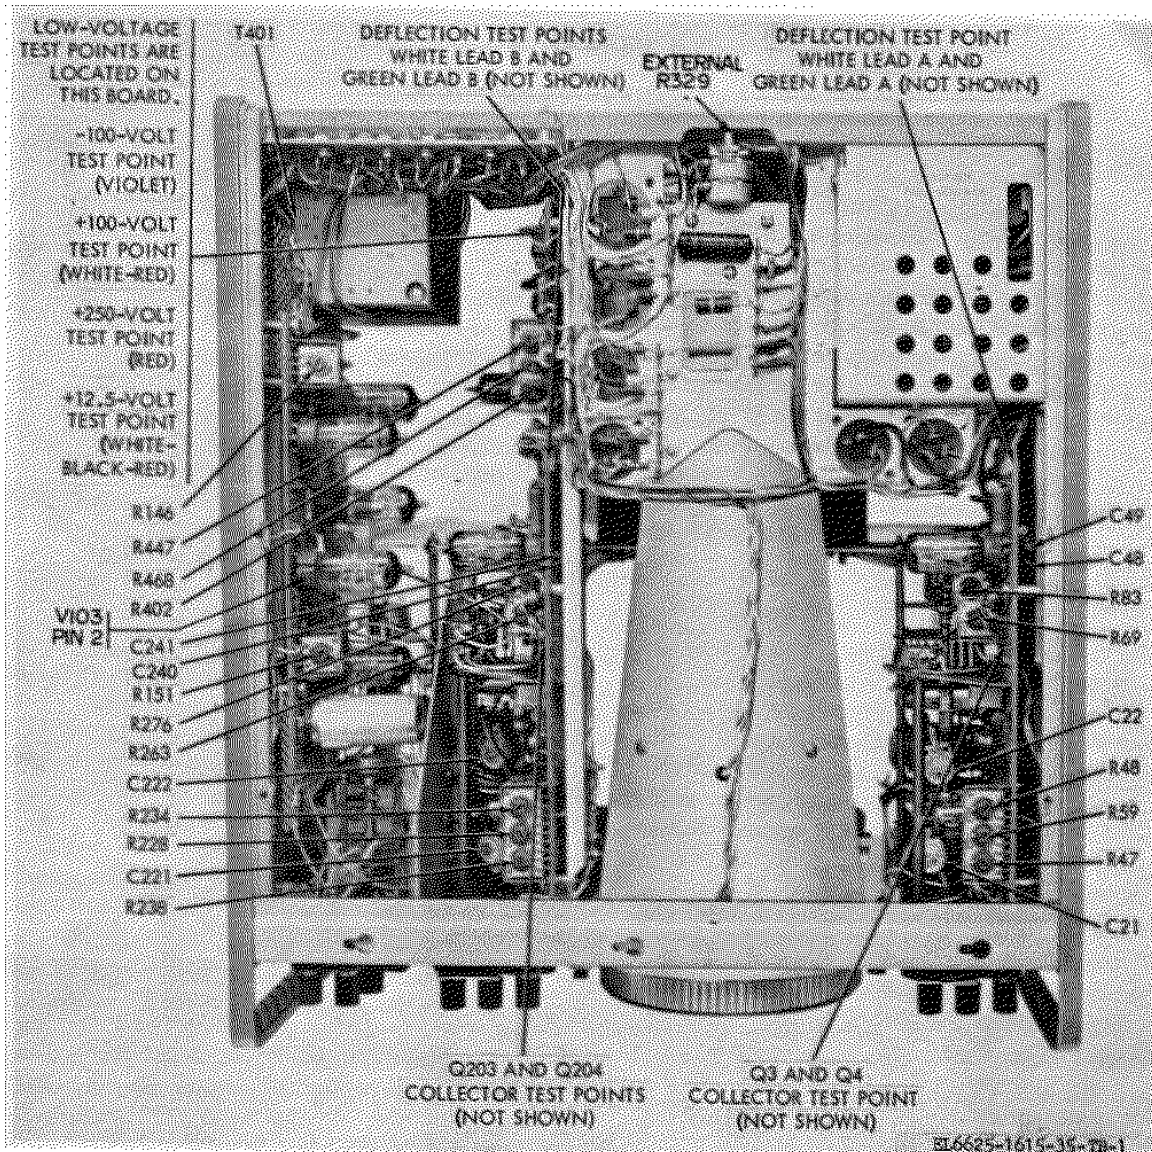

Figure 1. Oscilloscope-bottom view.
- (3) All AC-DC switches to AC.
(4) VERTICAL SENSITIVITY switch to 20 VOLTS/CM.
(5) HORIZONTAL SENSITIVITY switch to INTERNAL SWEEP X1.
(6) SWEEP TIME switch to 1 MILLISECONDS/CM.
(7) TRIGGER SOURCE-SLOPE switch to INT + (positive).
(8) LEVEL control to FREE RUN.
(9) NORMAL-SINGLE switch to NORMAL.
(10) HORIZONTAL and VERTICAL POSITION controls to midrange.
h. If necessary, adjust test instrument TRACE ALIGN adjustment R329 (Fig. 1, external rear) to align trace parallel to horizontal graticule line.
(1) Adjust ac voltage calibrated output to 176.75 millivolts rms.
(2) Adjust VERTICAL VERNIER control for 10 centimeters of vertical deflection on the test instrument crt.
(3) Disconnect lead from ac voltage calibrator and connect it to test instrument 500 MV CALIBRATOR jack.
(4) Adjust R402 (Fig. 1) for 10 centimeters of vertical deflection on the test instrument crt. (R)
(1) Vary VERTICAL VERNIER control throughout its range and adjust R47 (Fig. 1) until minimum spot shift is observed.
(2) Adjust R48 (Fig. 1) to center the spot on crt graticule. (R)
(3) Vary HORIZONTAL VERNIER control throughout its range and adjust R238 (Fig. 1) until minimum spot shift is observed.
(4) Adjust R234 (Fig. 1) to center the spot on crt graticule. (R)
(1) Connect ac voltage calibrator to test instrument VERTICAL input terminals as in a(2) above.
(2) Turn VERTICAL SENSITIVITY switch to .A VOLTS/GW.
(3) Adjust ac voltage calibrator for a 0.3535-volt rms output.
(4) Adjust R69 (Fig. 1) for a 10-cm display amplitude on test instrument crt. (R)
(5) Connect ac voltage calibrator to test instrument HORIZONTAL input terminals as in a(6) above.
(6) Turn HORIZONTAL SENSITIVITY switch to .1 VOLTS/CM.
(7) Repeat (3) above.
(8) Adjust R263 (Fig. 1) for a 10-cm display amplitude on test instrument crt. (R)
(1) Repeat a(1) through (4) above and adjust VERTICAL POSITION control to center the trace on crt graticule.
(2) Connect ac/dc voltmeter (A5) between Q3 (Fig. 1) collector and chassis ground and record indication.
(3) Connect ac/dc voltmeter between Q4 (Fig. 1) collector and chassis ground and record indication.
(4) Adjust R59 (Fig. 1) until average indication of (2) and (3) above is -15 volts. (R)
(5) Connect ac/dc voltmeter to deflection test point white lead A (Fig. 1) and record indication.